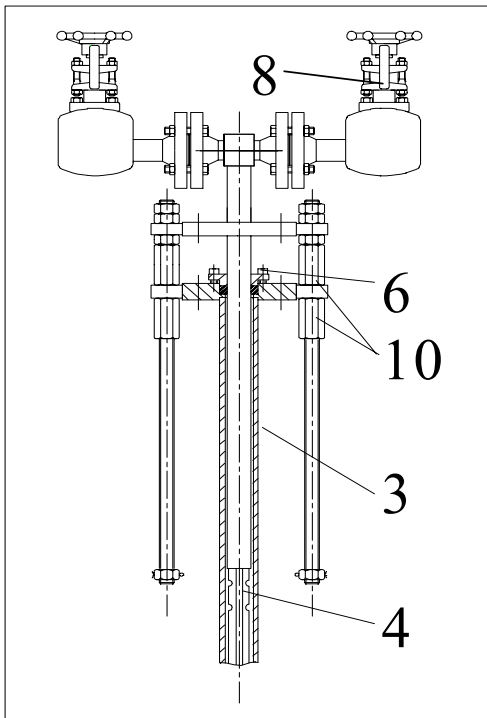

Fig. 13: Sensorprofile in working position type FTHD
Fig. 13 drilling machine with flanged adapter nipple mounded on unit isolating valve
4. Upon completion of the Flo-Tap insertion, the threaded rods and nuts of the insert - retract mechanism should be in a position as shown Fig. 13.